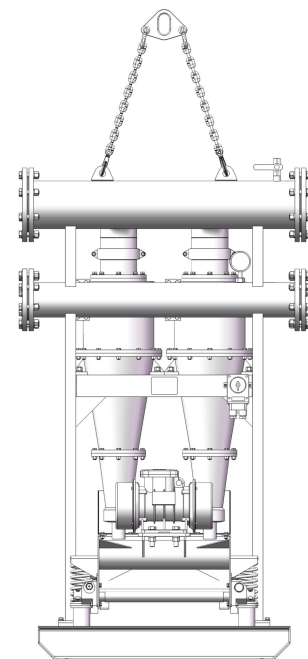

Figure 3
It must be lifted at pointed place, and propping the lifting rope with spreader bar, so as to avoid destroying the equipment. Refer to figure 3.
- B. Lifting on the specified point is required when the complete is loaded or unloaded, and attention should be paid to avoid collision during transport, refer Figure 3;